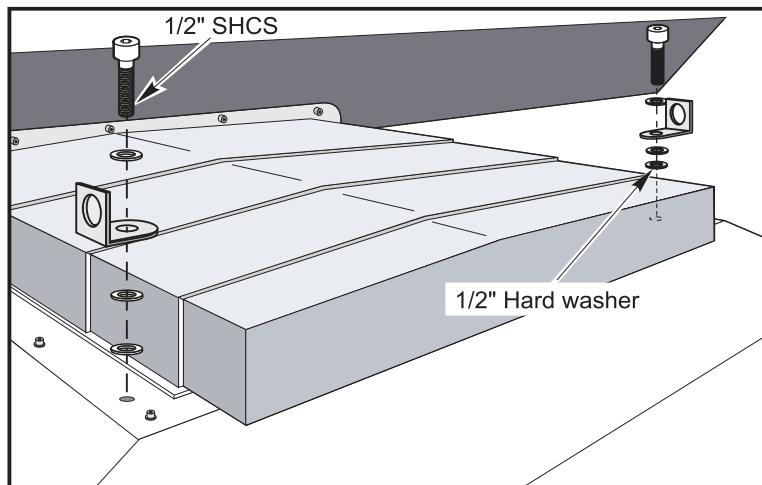

Fig. 1.9-3 Lifting bracket mounting location for VF-3 and VF-4.
3. Install the lifting brackets with (2) 1/2"-13 SHCS and (2) 1/2" hard washers, [(2) washers under bracket and (1) above bracket], to the base as shown in Figure 1.9-3. Tighten securely.